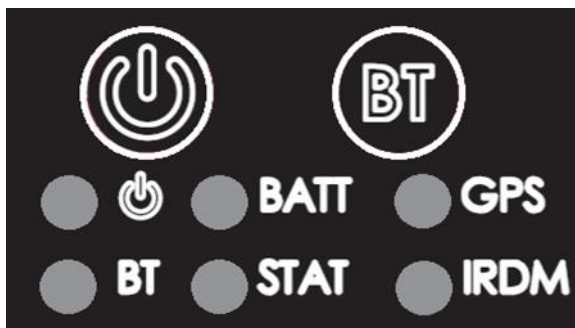

Figure 3. Control Buttons and Status LEDs on the SHOUT ns front face.
The SHOUT ns has six status LEDs, as shown in Figure 3, which include: power (⏻), Bluetooth state (BT), GPS fix (GPS), Iridium signal (IRDM), battery level (BATT), and transmission status (STAT). They offer users a quick visual check to ensure proper operations.